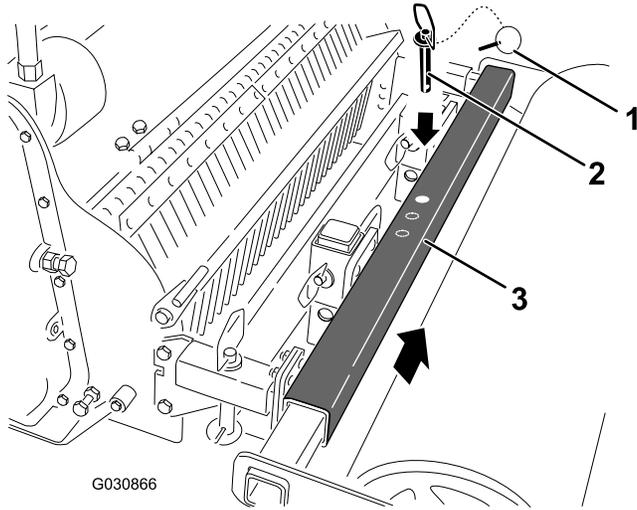

Figure 8
1. Remove the drift pin (Figure 8).
2. Slide the roller to the desired position (Figure 8).